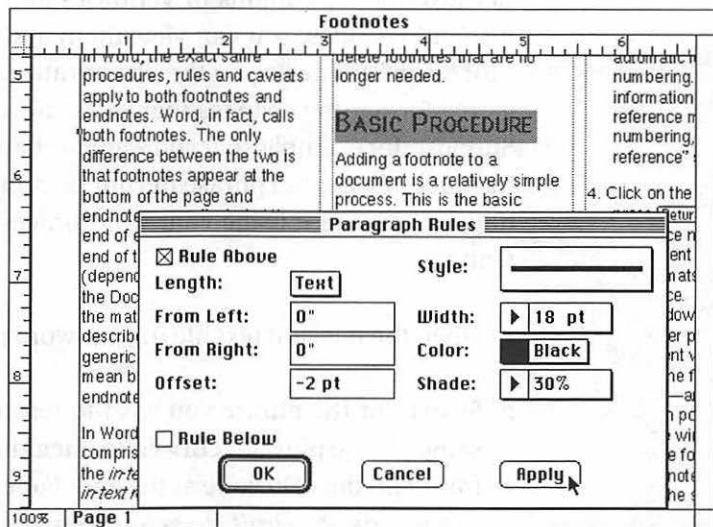

FIGURE 4-23 You can also use paragraph rules in XPress to highlight text.
In XPress, the principles are more or less the same; the differences are in the details. These are the steps for the example in Figure 4-23:
4. In the **Offset** text box, enter a negative offset value to center the rule over the text. Since this text box expects a percentage value, enter the appropriate unit of measurement after the offset value (as in the dialog box in Figure 4-23). In most instances, a small offset value will do.